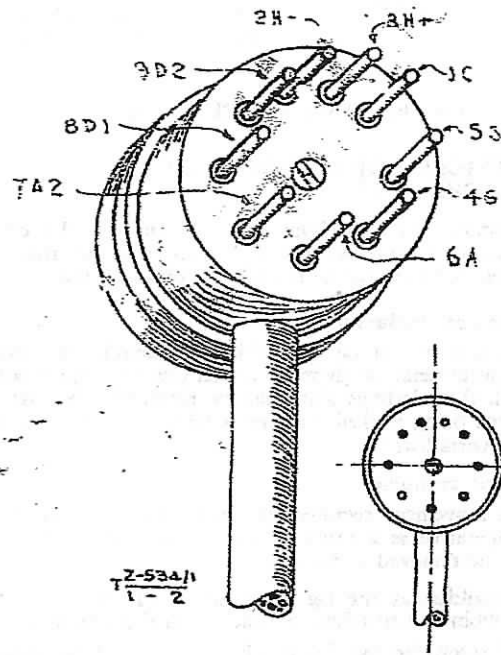

Fig. 2 — View of pin ends of plug
all valve pin sockets of all valve holders are connected to the same supply line. Test for continuity between the appropriate pin on the plug (which is normally plugged into the meter and supply unit) and all valve pin sockets. The appropriate pins for the various settings of the banks of the selector switch are indicated by the letters in Fig. 2.
- A socket to pin 6A (Fig. 2)
- G " " " 4G (Fig. 2)
- S " " " 5S (Fig. 2).